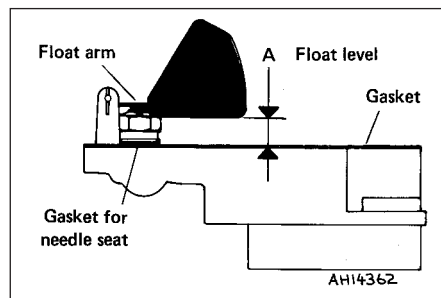

Fig. 3.16 Float setting diagram (Solex C32 DISA 11) (Sec 10)
5 Reassemble and check the float setting. Do this by inverting the top cover so that the weight of the float fully depresses the ball of the needle valve. The distance (A) (Fig. 3.16) between the float and the surface of the top cover flange gasket should be between 2.0 and 3.0 mm (0.079 and 0.118 in). If adjustment is required, alter the thickness of the washer under the needle valve.